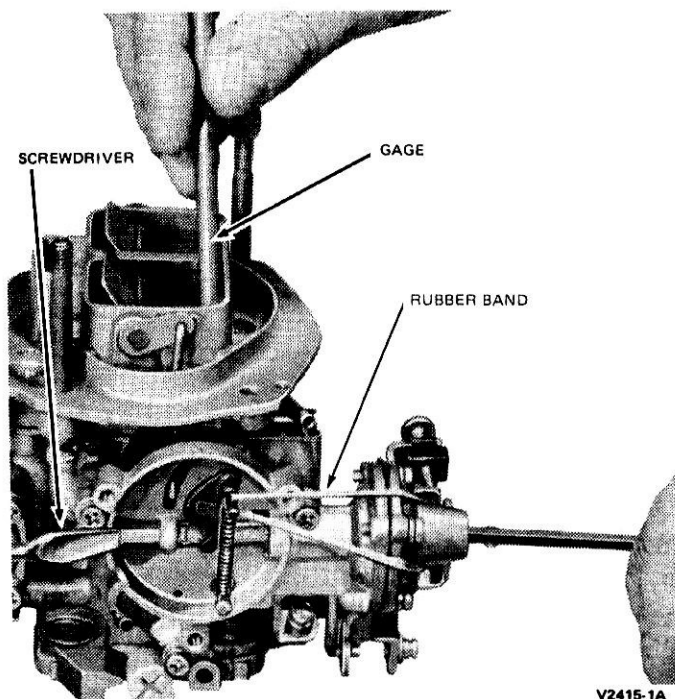

FIG. 3 Measuring Choke Plate Pulldown
4. Using a screwdriver, push the diaphragm stem back against its stop (Fig. 3). Place a specified gage rod or drill between the lower edge of the choke plate and the air horn wall.
5. Remove the slack from the choke linkage by attaching a rubber band to the choke operating lever as shown in Figure 3.